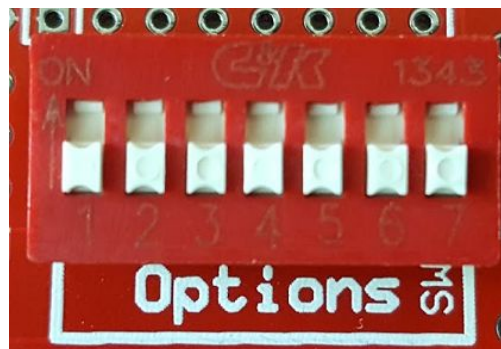

Fig10
24. Install the SW1, DIP switches (9 switches) Ensure that the arrow is pointing in the direction of the top of the board. See Fig10
25. Install the SW2, DIP switches (7 switches) Ensure that the arrow is pointing in the direction of the top of the board. See Fig10